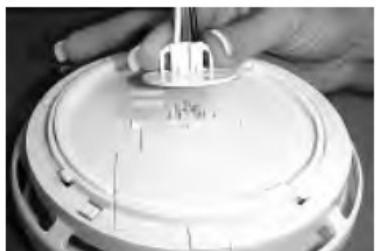

FIGURE 5
4. Plug the AC QUICK CONNECTOR into the back of the alarm (see figure 5), making sure that the locks on the connector snap into place. Then push the excess wire back into the electrical box through the hole in the center of the trim ring.
To replace the battery, remove the alarm from the trim ring by rotating the alarm in the direction of the "OFF" arrow on the cover. To disconnect the AC power harness, squeeze the locking arms on the sides of the Quick Connector while pulling the connector away from the bottom of the alarm (see section 3, figure 5).
When installing the battery, press the battery reminder finger down into the battery compartment and install the battery (see figure 5).